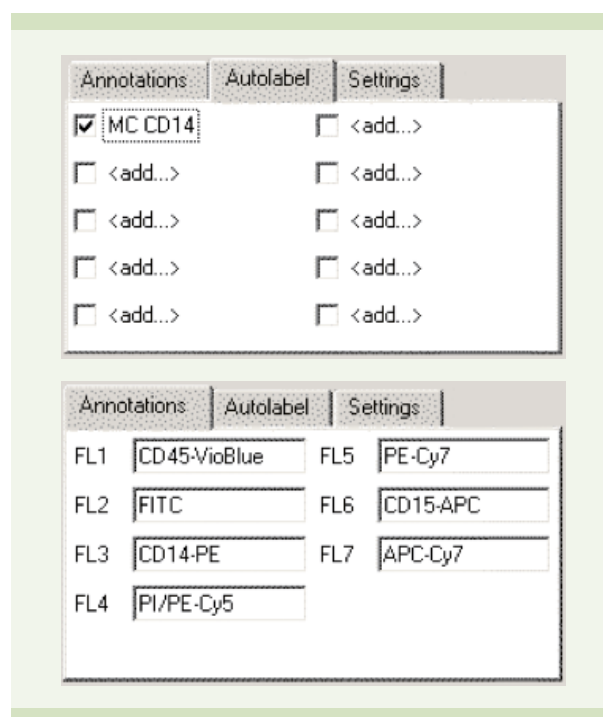

Figure 1: MC CD14 Cocktail is selected for autolabeling. The corresponding annotations have been uploaded.
- In the 'Autolabel' tab, see the uploaded reagents available to apply to the rack positions (figure 1).
- With the well(s) in 'selected' mode (), click the reagent(s) required for autolabeling that sample (refer to figure 1) from the 'Autolabel' tab.